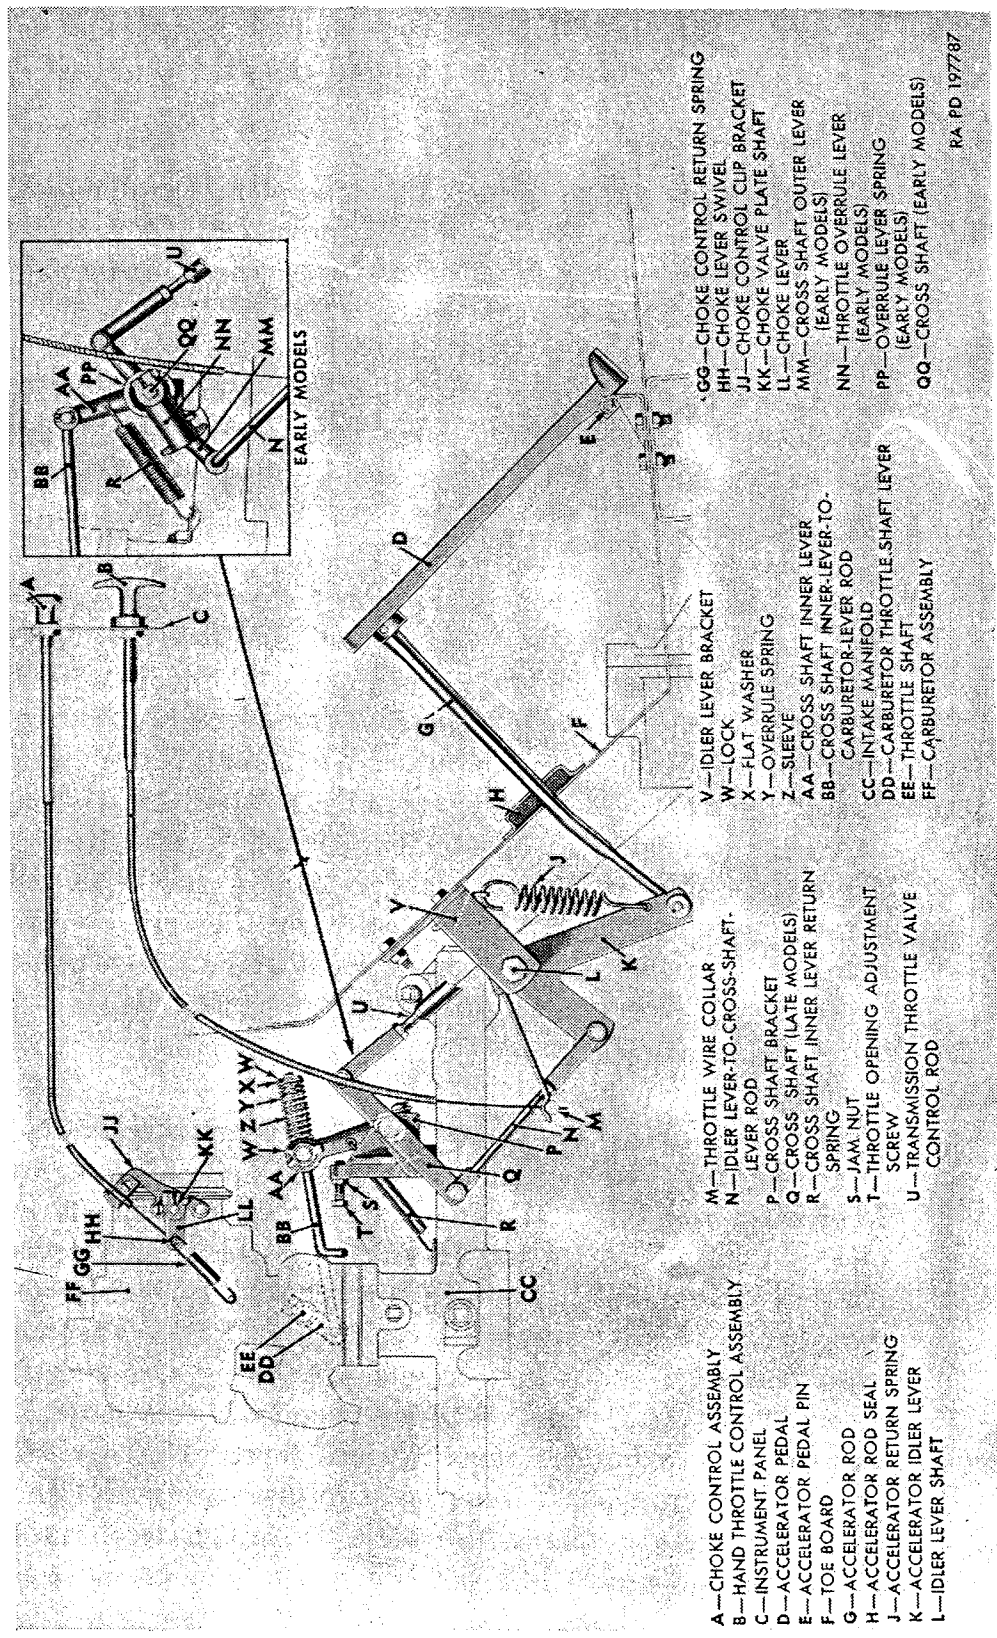
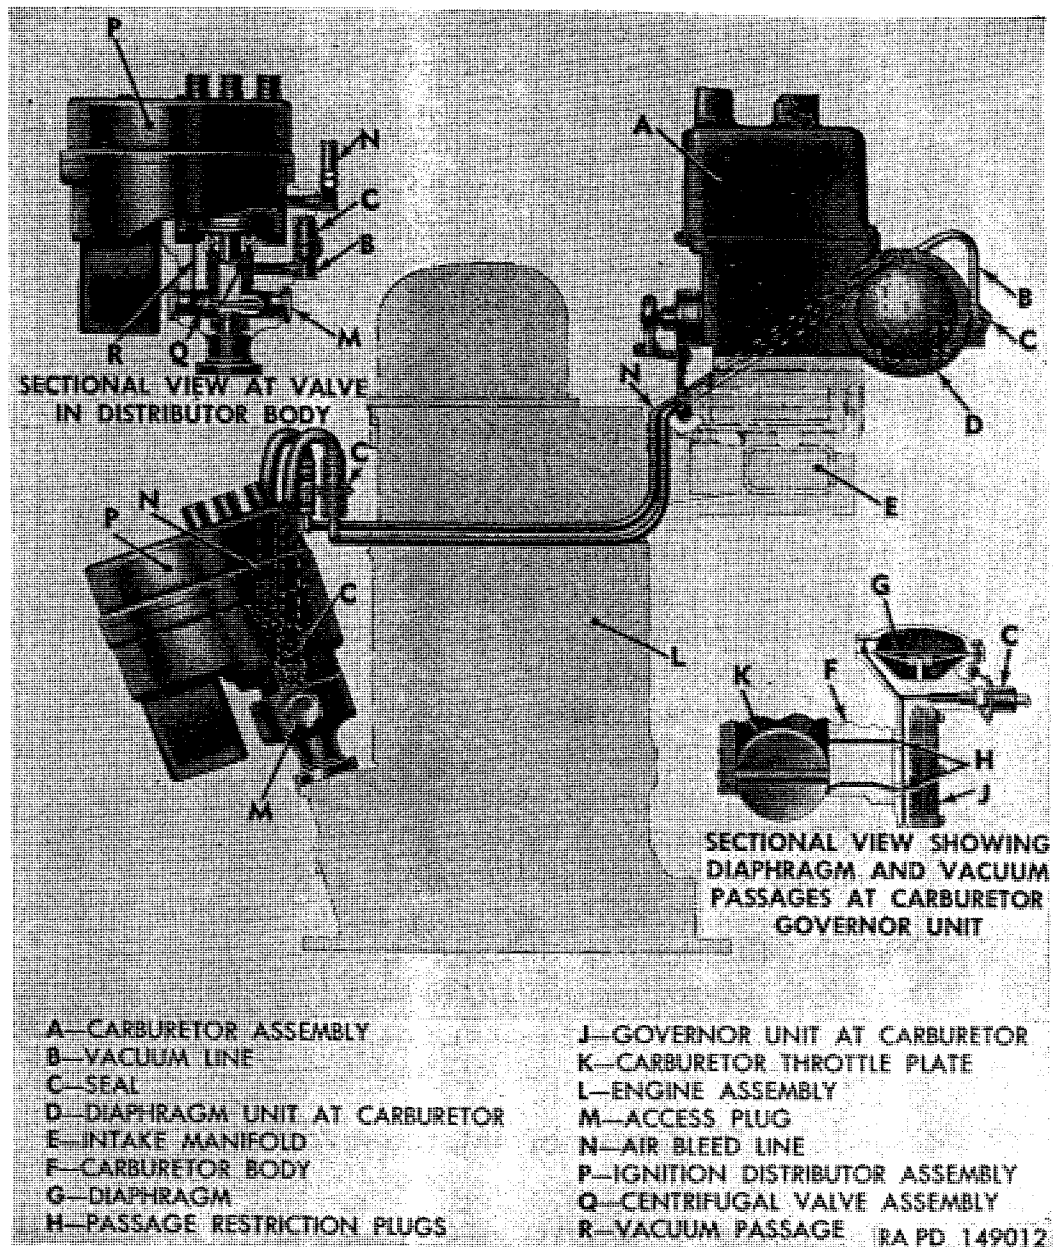

Figure 124. Carburetor controls.
Figure 125. Arrangement of governor units and lines.
a. Description. Carburetor is double-venturi, down-draft-type with side air intake. Governor throttle unit, incorporated in carburetor assembly, operates in conjunction with governor centrifugal-type valve in ignition distributor to control engine maximum speed. Carburetor (fig. 124) is stud-mounted on engine intake manifold and is manually controlled by linkage. Carburetor is completely sealed and calibrated to provide proper fuel mixture under all operating conditions.
- (1) Remove clamp connecting air inlet elbow to carburetor.
- (2) Remove seal wire from vacuum line connector nut at carburetor, and disconnect vacuum line and air bleed line (B and N, fig. 125) at carburetor.
- (3) Disconnect fuel flexible line and line holdup spring from carburetor.
- (4) Disconnect choke control wire at carburetor choke lever (LL, fig. 124) and loosen choke control clip. Remove cross-shaft inner-lever-to-carburetor-lever rod (BB, fig. 124). Remove carburetor mounting studs nuts and lockwashers; then lift carburetor assembly from engine. Discard gasket and seal.
- (1) Place new gasket on each side of insulator on manifold or on Mechanovac unit (if used); then set carburetor in position and install stud nuts and lockwashers on carburetor mounting studs.
- (2) Install cross-shaft inner-lever-to-carburetor-lever rod (BB, fig. 124). Connect choke control wire at choke lever (LL, fig. 124) and tighten choke control clip at choke control clip
bracket (JJ, fig. 124). Check operation of choke control to be sure valve is open when knob of choke control assembly (A, fig. 124) is pushed in and closes completely with knob pulled out.
- (3) Connect fuel flexible line at carburetor and engage flexible line holdup clip spring at vacuum line elbow of governor. Connect air bleed and vacuum line (B and N, fig. 125) at carburetor. Install seal wire to hold seal in place over vacuum line connector nut.
- (4) Place new seal at carburetor air inlet flange, position elbow at carburetor, and install clamp to hold elbow to carburetor.
Note. The key letters noted in parentheses are in figure 124, except where otherwise indicated.
(fig. 125)